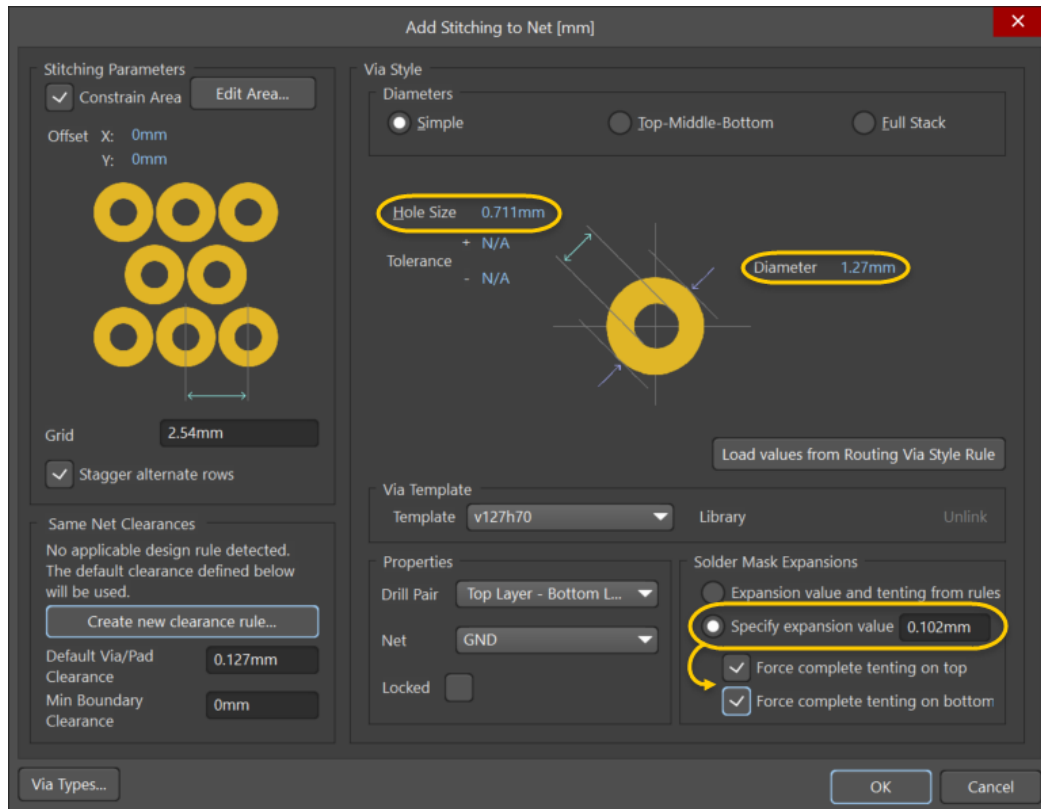

Figure 3. Via hole and tenting values
8. Verify the *Hole Size* is 0.711mm and *Diameter* is 1.27mm as shown in Figure 3.
10. Check the **Force complete tenting on top** and **bottom** checkboxes under the *Solder Mask Expansions* area to have the added stitching vias covered over with Solder Mask as shown in Figure 3.